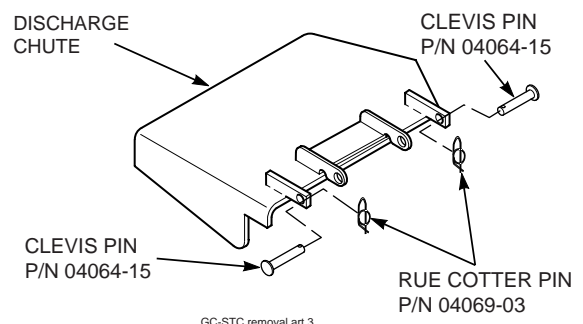

Figure 4-3
9. Re-install the side discharge chute to the opening on the cutter deck. Replace the two (2) outside mounting bolts on the discharge chute with the clevis pins (p/n 04064-15) and rue cotter pins (p/n 04069-03). See Figure 4-3.